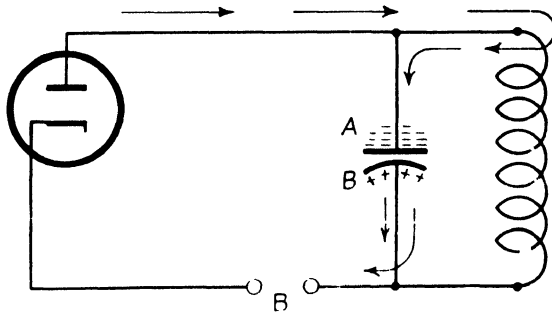

FIG. 427. The tank coil opposes the surge and charges the tuning condenser. Electrons are forced on side *A* and are drawn off side *B*.
(see Fig. 427). This makes side *A* negative and drives electrons off side *B* to the B supply.
3. When plate *A* has a heavy negative charge, as in Fig. 427, what will be the charge on the plate? What charge does the plate produce on the grid? What effect will the grid now have upon the plate current?